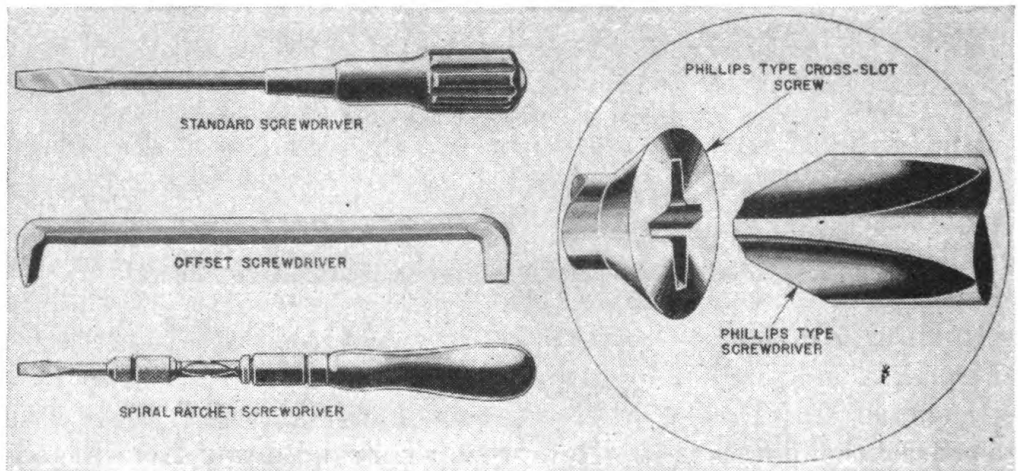

FIGURE 5.—Types of screw drivers.
3. Screw drivers.—*a. General.*—Screw drivers are tools for driving or removing screws. The most common types are the standard, offset, spiral ratchet, and Phillips, as shown in figure 5.
(1) The *standard screw driver* is suitable for most ordinary work. The blade (or end) must have sharp corners and fit the slot in the screw closely; otherwise it is likely to slip and damage the slot. It is important that any screw driver be held firmly against the screw to prevent it from slipping and injuring the worker or scratching the work.
(2) The *offset screw driver* makes work possible in tight corners where the standard straight type will not enter.
(3) The *spiral ratchet screw driver* is used to drive or remove small machine screws rapidly.
(4) The *Phillips type screw driver* is made with a specially shaped blade to fit Phillips type cross-slot screws. Figure 5 shows clearly the way the tool works.